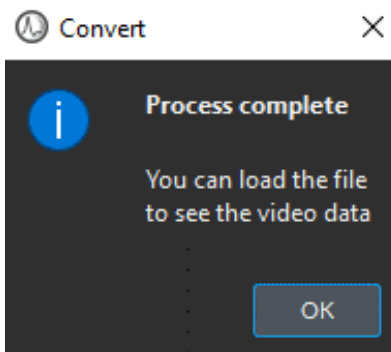

Figure 4.14: *Convert Microscope Images, Process Complete Pop-up*
- 7. The **Convert** button initiates the conversion process. A **Process Complete** pop-up window (Fig. 4.14) will be displayed if the conversion is successful. To view the file in the **File Manager** you must first load it (See Section 4.2).